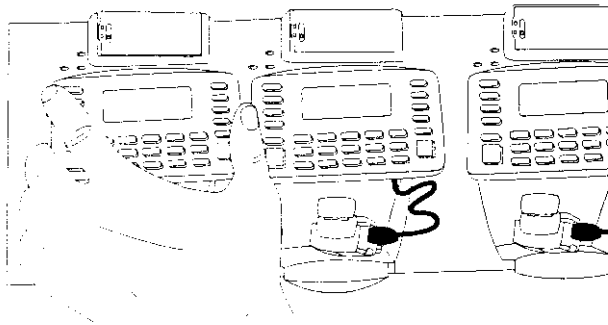

Figure 6-2. Inserting Wrist Computer into 4-Slot Cradle
2. Slide the WWC 1000 in the cradle as shown in Figure 6-2